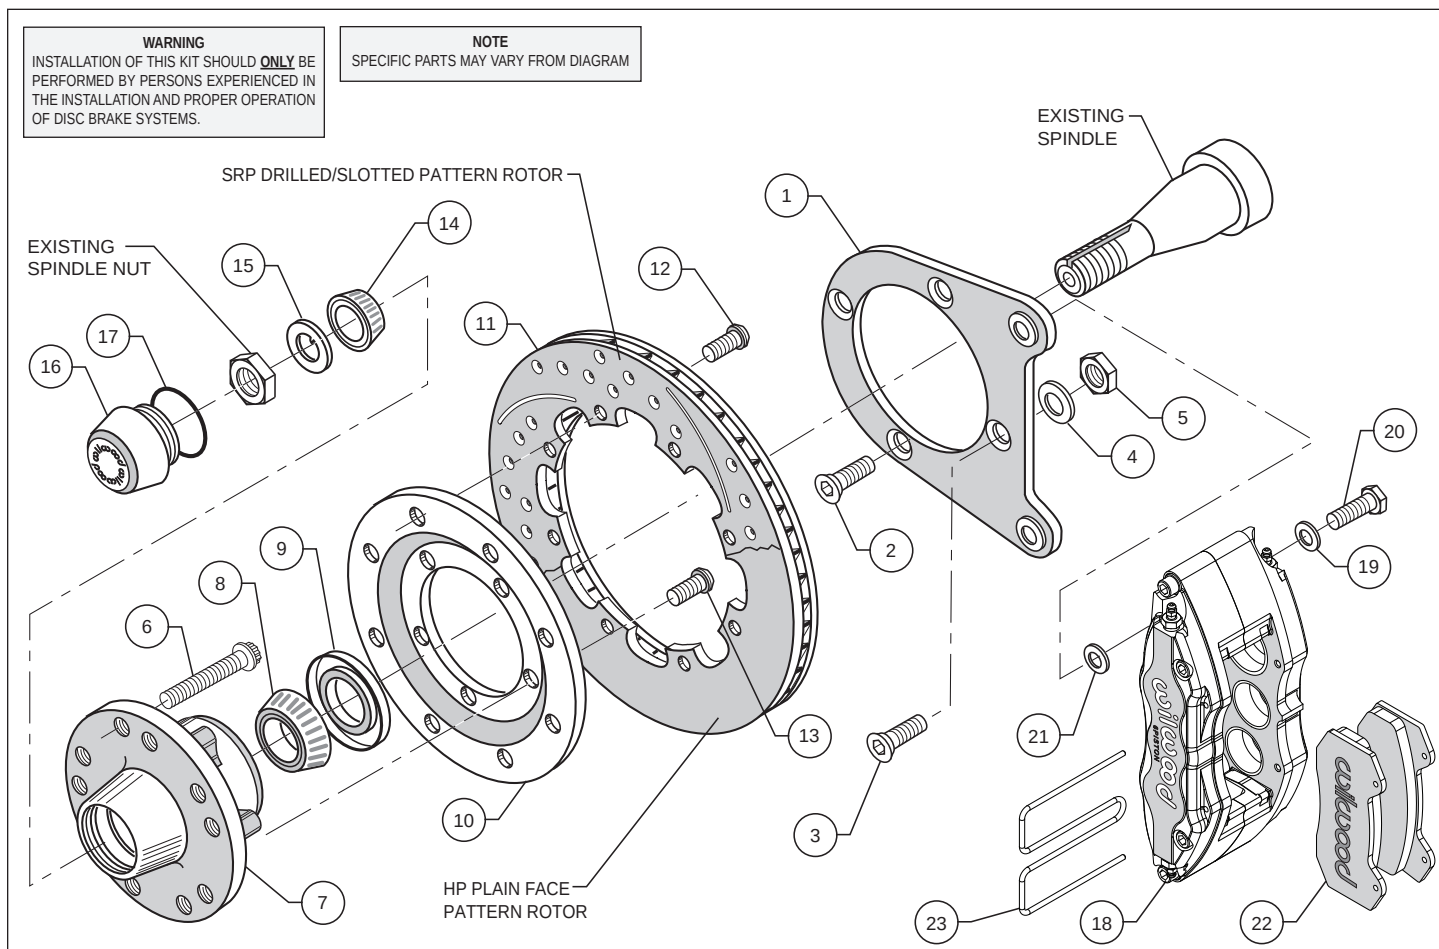

Figure 1. Typical Installation Configuration
•Apply red *Loctite*® 271 to bolt threads (2 and 3) before assembly of the caliper mounting bracket (1). Mount bracket (1) to dust face plate of spindle by screwing bolts (2) into steering arm, finger tighten only. Install bolts (3) through caliper mounting bracket (1) and steering arm, secure with washer (4) and nut (5), finger tighten only. Torque bolts (2 and 3) to 80 ft-lb. **NOTE:** Be sure the heads of the bracket (1) insert nuts are facing outward toward the wheel.
•Install wheel studs (6) into the hub (7). Torque to 77 ft-lb. **NOTE:** There are two five lug patterns in the hub (5 x 4.50 and 5 x 4.75). Make sure of the correct hole pattern for the correct wheel application before installing studs into hub.
•Pack the large inner bearing cone (8) with high temperature disc brake bearing grease (available from your local auto parts store) and install into the backside of the hub (7).
•Install the grease seal (9) by pressing into the backside of the hub (7).
•Orient the rotor (11) and the rotor adapter (10) as shown in Figure 1. Attach the rotor to the adapter using bolts (12). Using an alternating sequence, apply red *Loctite*® 271 to the threads, and torque to 25 ft-lb.
•Mount the adapter/rotor assembly (10/11) to the hub (7) using bolts (13), as shown in Figure 1. Using an alternating sequence, apply red *Loctite*® 271 to the threads, and torque to 55 ft-lb.
•Pack the small outer bearing cone (14) with high temperature disc brake bearing grease and install into front of hub (7). Slide the hub/rotor assembly (7 and 11) with outer bearing cone (14) onto the spindle. Secure using new spindle washer (15), your adjusting nut and nut locking device. Adjust bearings per Original Equipment Manufacturer (OEM) specifications.
•Install the dust cap (16) onto the hub (7). Friction created by the o-ring (17) on the dust cap (16) keeps it from unscrewing. Be sure the spindle washer (15) seats properly against the hub face.
•**NOTE:** Please reference the caution statement at the beginning of the assembly instructions. This kit contains distinct right and left hand calipers that must be mounted in a specific direction, as described below. Mount the caliper (18) onto the caliper bracket (1) using bolts (20) and washers (19), as shown in Figure 1. Initially place two .032" thick shims (21) on each bolt between the caliper and the bracket. Ensure that the caliper is mounted so the largest pistons are at the rotor exit end of the caliper, in relation to the direction of rotor rotation. Temporarily tighten the mounting bolts and view the rotor (11) through the top opening of the caliper. The rotor should be centered in the caliper. If not, adjust by adding or subtracting shims (21) between the bracket and the caliper. Always use the same